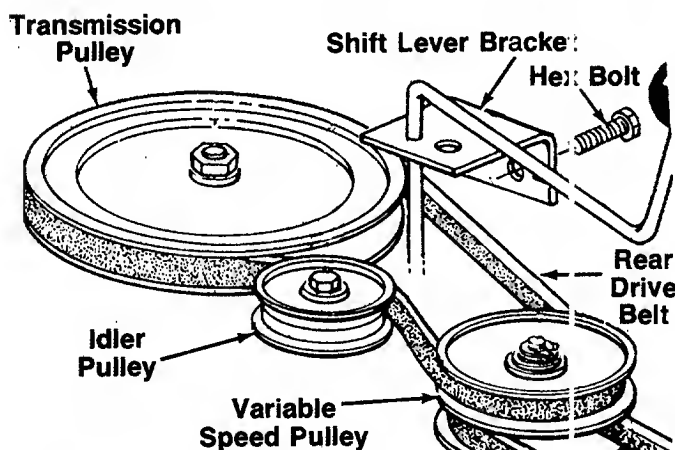

FIGURE 19.
3. Push the idler pulley toward the right side of the unit. Lift the belt over the idler pulley. See figure 19.
5. Remove the two bolts which hold the shift lever bracket to the frame on the left side of the unit. Swing the bracket toward the right so the belt can be removed from the transmission pulley. See figure 19.